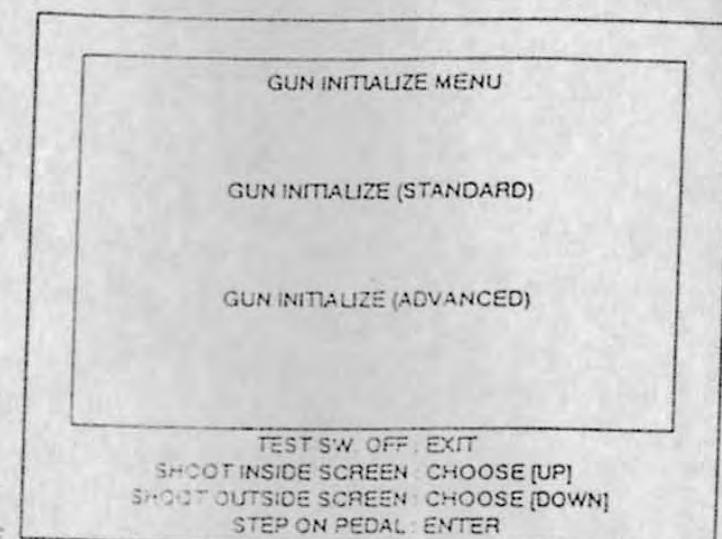

Fig. 6.13 Gun Initialization Menu Screen
- 1) If the test switch is turned ON while pressing the service switch, the gun initialization menu screen is displayed. (Fig. 6.13)
7) If the service switch is pressed, the gun initialization menu screen (Fig. 6.13) returns.
If the pedal is stepped on or the service switch is pressed, the gun initialization menu screen (Fig. 6.13) returns, and if the initialization is still not proper, select gun initialize (advanced) and perform initialization again.